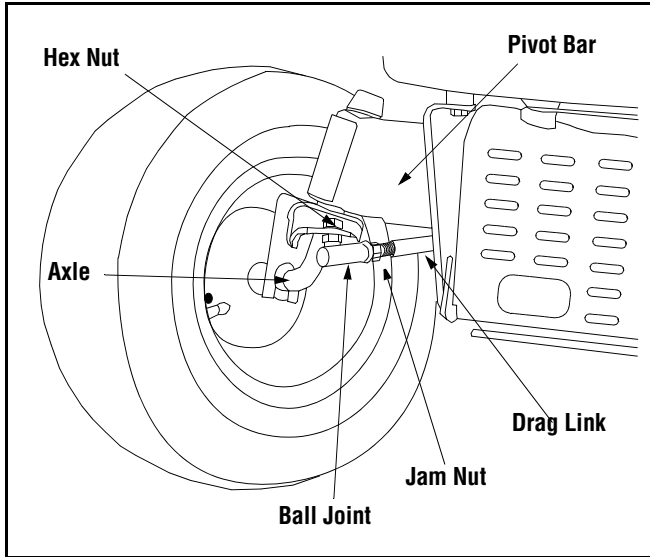

Figure 20
- Loosen the jam nut found on the drag link at the rear of the ball joint. See Figure 20.
- Remove the hex nut on the top of ball joint. See Figure 20.